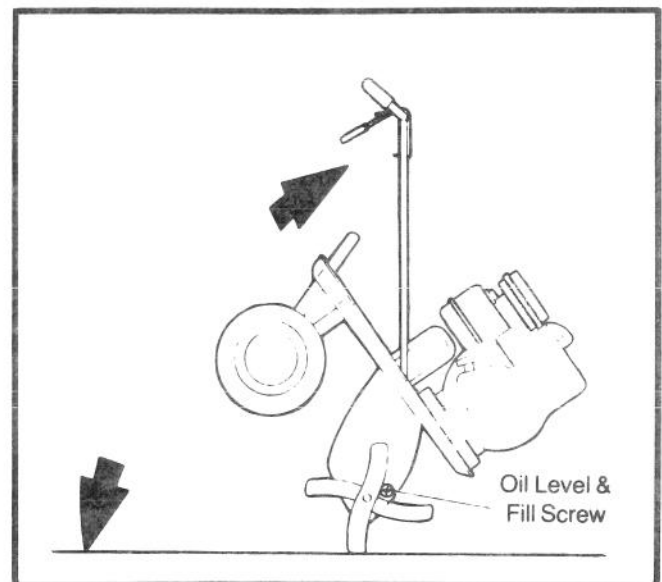

FIGURE 14
4. **Chain Case** - To check the oil level of the tiller chain case raise handle until it is approximately straight up and down. Wipe dirt from around oil fill screw and remove, Fig. 14.